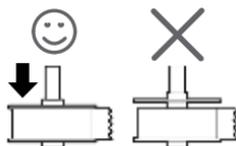

Figure 8
- 4 Hold the spool spindle in your left hand and place the label roll on the spindle so that the labels feed from underneath and the left edge of the label roll is flush against the side of the spool. See Figure 8.
- 5 Place the spool guide onto the right side of the spool and press the guide tightly against the side of the label roll, **leaving no gap** between the roll and the spool. See Figure 8.
NOTE The label roll must fit snugly against both sides of the label spool, with no gaps, to avoid drifting as the labels feed through the printer. See Figure 8.